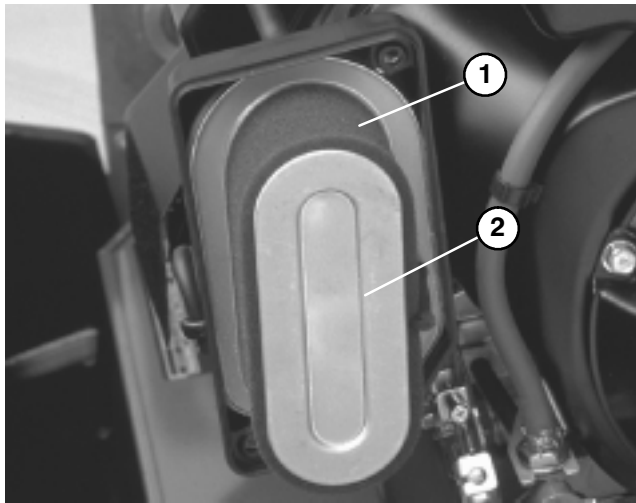

Figure 29
3. If foam element is dirty, remove it from paper element (Fig. 29). Clean thoroughly.